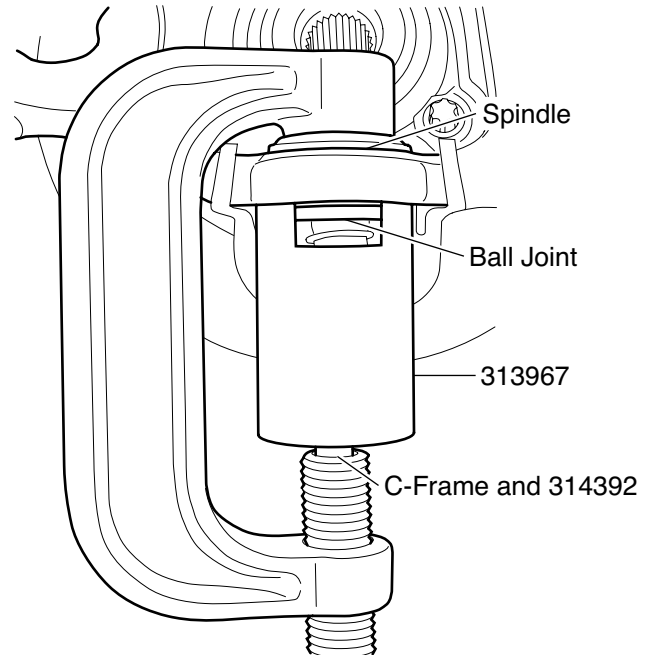

Figure 2. Ball Joint Installation
3. Position 313967 on the ball joint as shown in Figure 2.